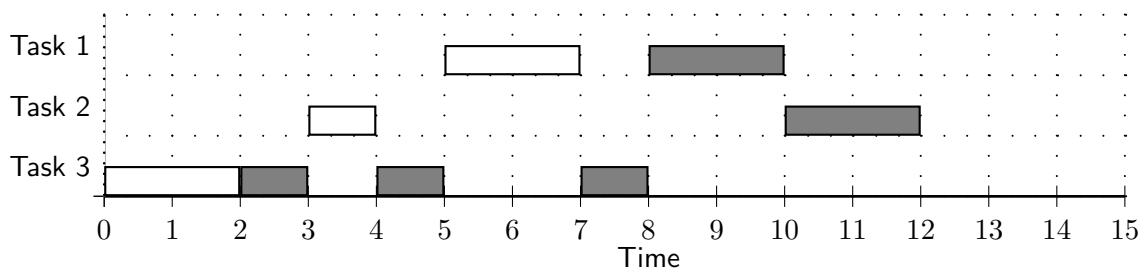

Figure 4: Task Schedule.
- (a) (5 points) Use the Priority Inheritance Protocol to schedule all tasks. Draw your schedule in Figure 4.